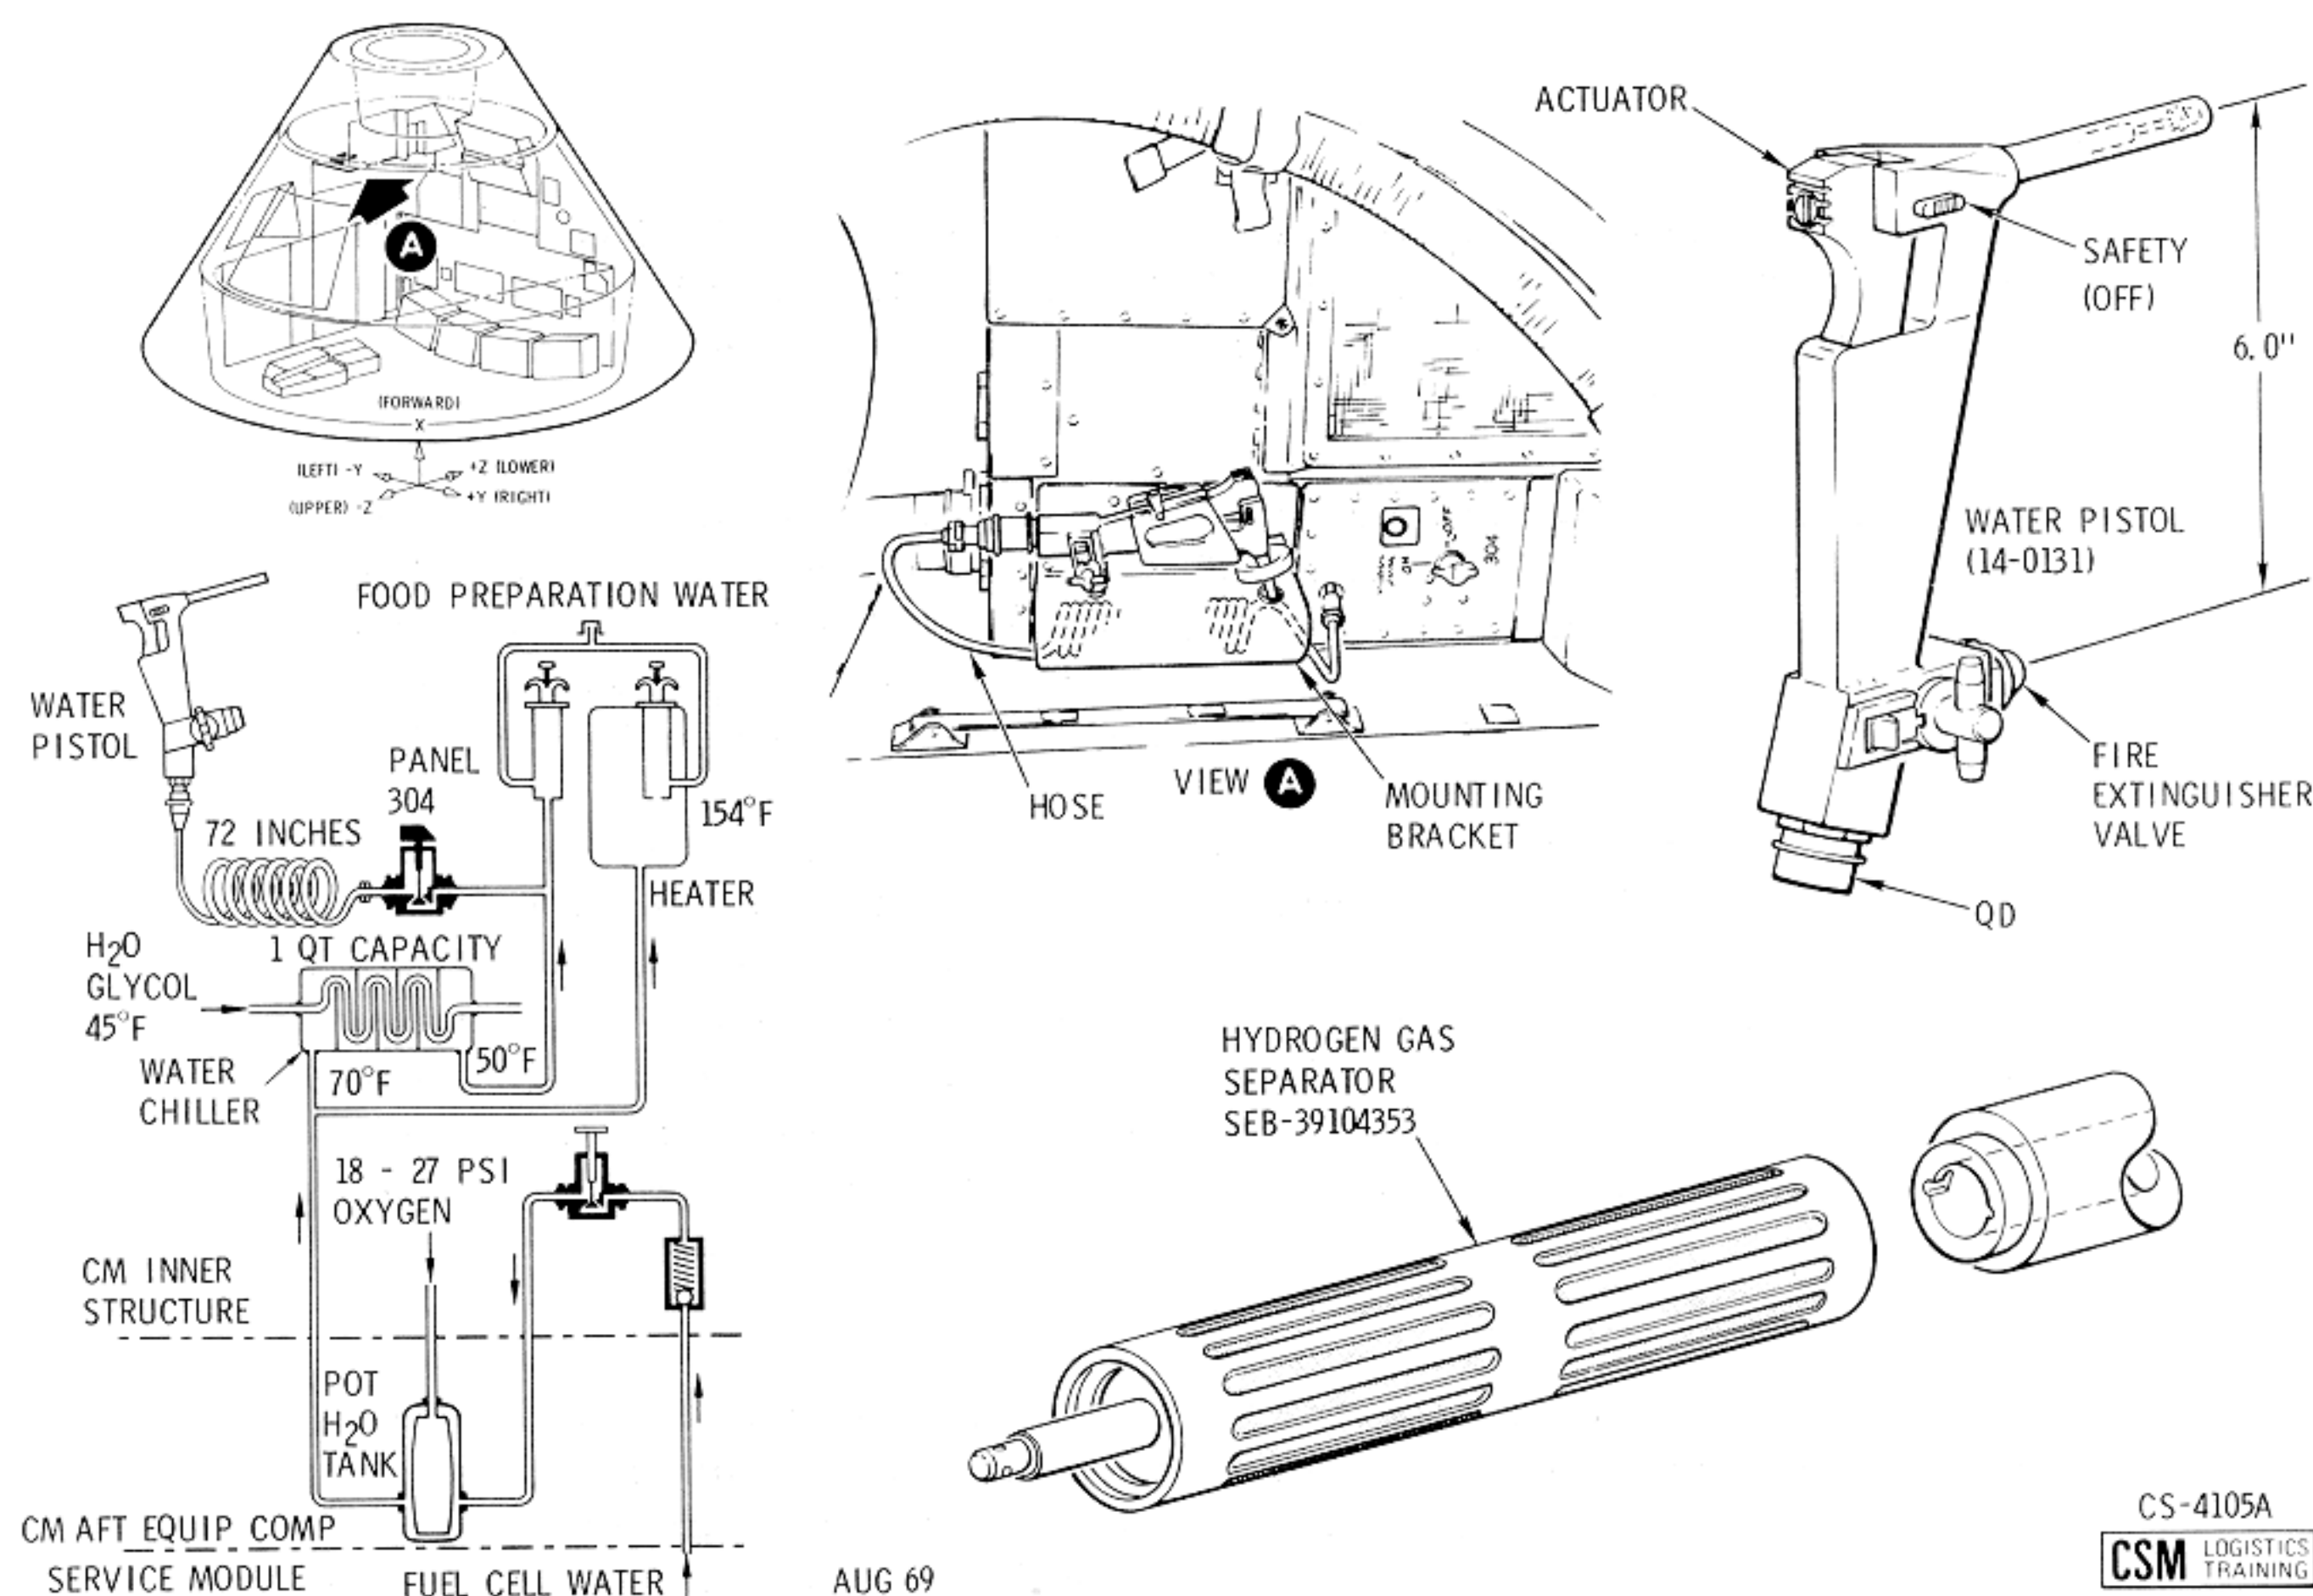

Figure 2.12-38. Drinking Water Subsystem
2.12.6.1.1 Drinking Water Subsystem (Figure 2.12-38).